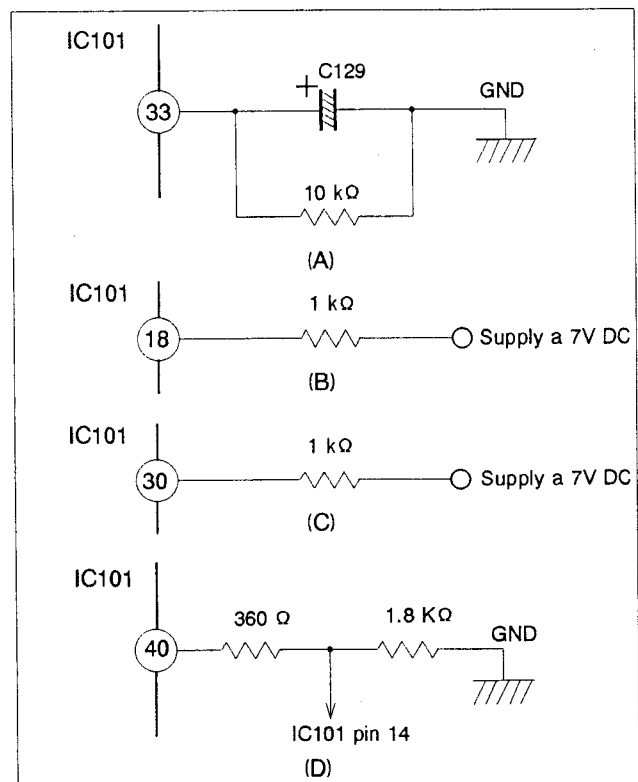

Fig. 3-1-21 LC VCO
- 1) Connect 10 kΩ resistor between pin 33 of IC101 of the video board and GND, as in Fig. 3-1-21 (A).
- 2) Supply a 7 V DC to pin 18 of IC101 of the video board with 1 kΩ resistor, as in Fig. 3-1-21 (B).
- 3) Supply a 7V DC to pin 30 of IC101 of the video board with 1 kΩ resistor, as in Fig. 3-1-21 (C).
- 4) Use a jumper jig as shown in Fig. 3-1-21 (D) and connect jumper jig between pin 40 of IC101 and pin 14 of IC101 of the video board.